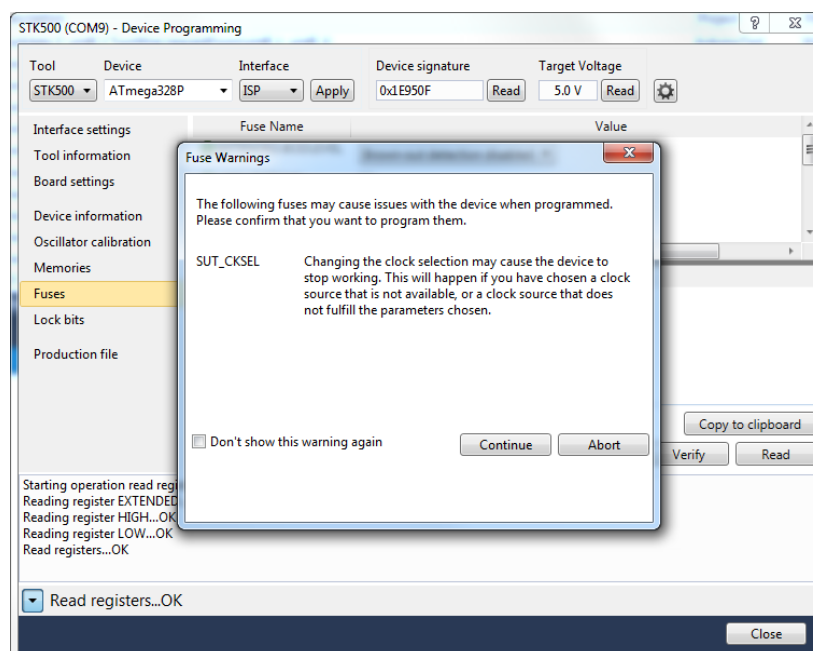

Figure A2 Changing the LOW-byte in device programming
- Now, type the new 0xFF value to the “LOW” fuse register. Click the *Program* button. It will generate a warning window as in Figure A2, and press the *Continue* button. It will display an OK message in the text terminal.